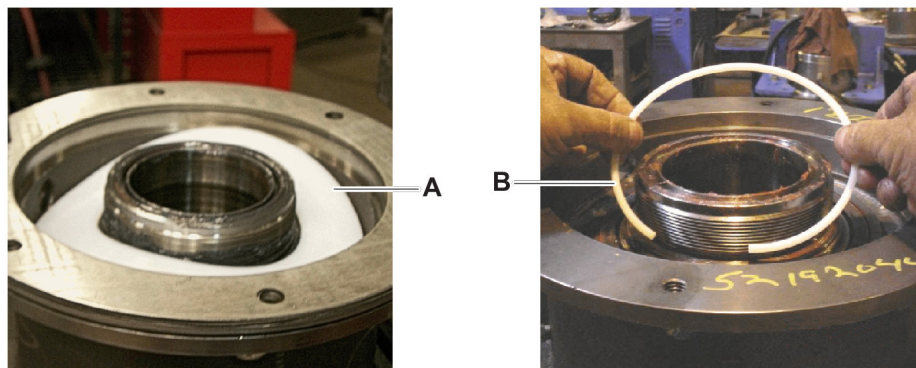

Figure 6
8. Put a drip shield (Figure 6, item A) around the spindle. Put the plastic locking ring (item B) into the groove at the base of the spindle threads.